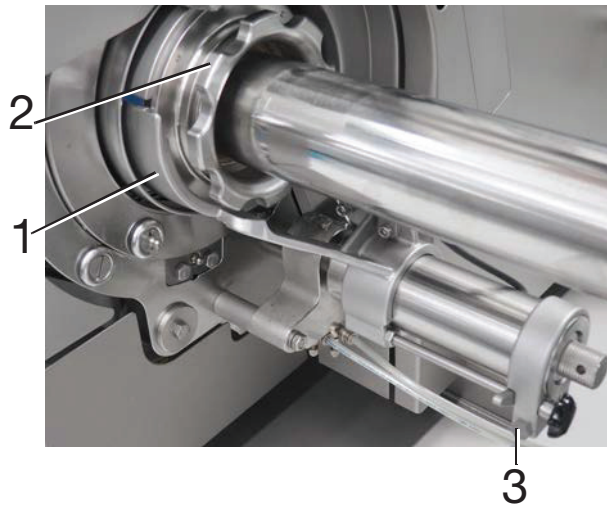

Fig. 3-8 1 Casing brake holder
- To adjust, loosen the fixing screw (3, Fig. 3-8) and move the casing brake holder with the casing brake as required.